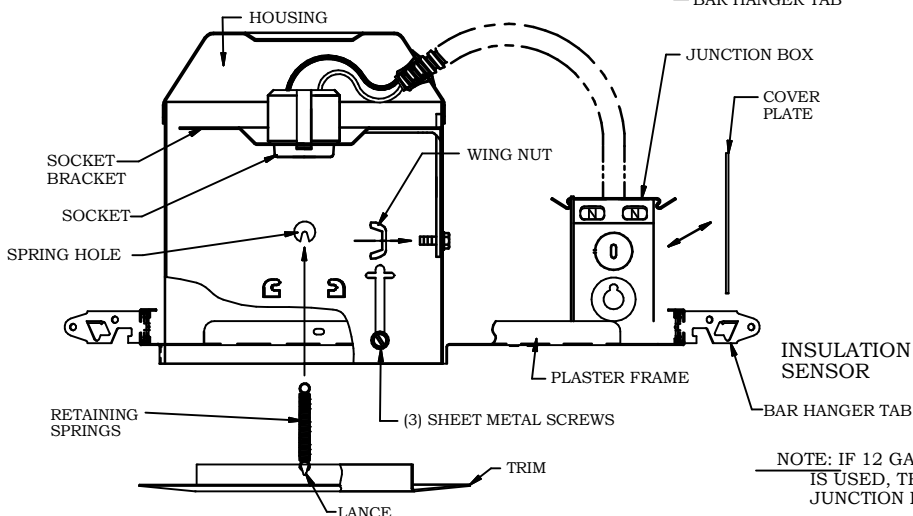

FIGURE 3
- 4.- HOUSING CAN NOW BE ADJUSTED TO CEILING LEVEL BY LOOSENING THREE (3) SHEET METAL SCREWS AND RAISING OR LOWERING HOUSING THEN TIGHTENING SCREWS (SEE FIGURE 3).
- 6.- HOOK RETAINING SPRINGS INTO LANCES IN TRIM (SEE FIGURE 3). STRETCH RETAINING SPRINGS INTO SPRING HOLES IN HOUSING. PUSH TRIM ASSEMBLY UP INTO HOUSING UNTIL LIP ON TRIM PASSES UP AGAINST CEILING.